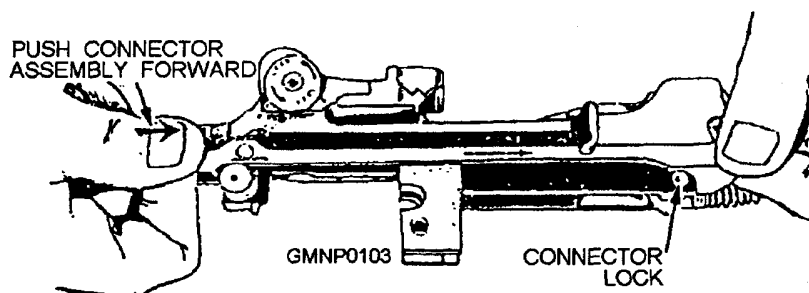

Figure 3-29.—Disengaging the connector assembly.
3. If the rifle has a selector shaft lock, press forward on the rear of the connector assembly with your right thumb, as shown in figure 3-29, until the front end can be lifted off the connector lock.